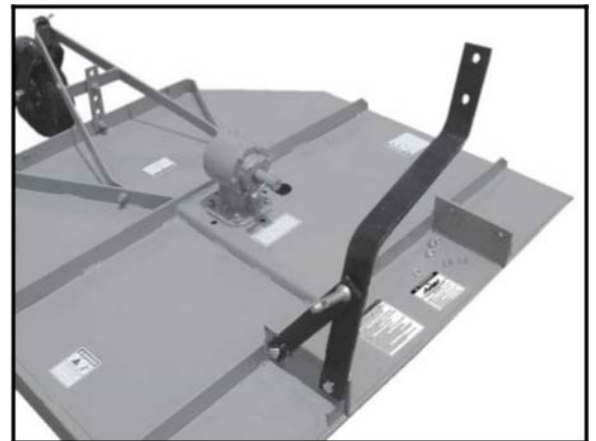

Figure 3
STEP 3 Install the right lift arm and lift arm support strap using two (2) short bolt and one (1) lift pin. (See Figure 3)